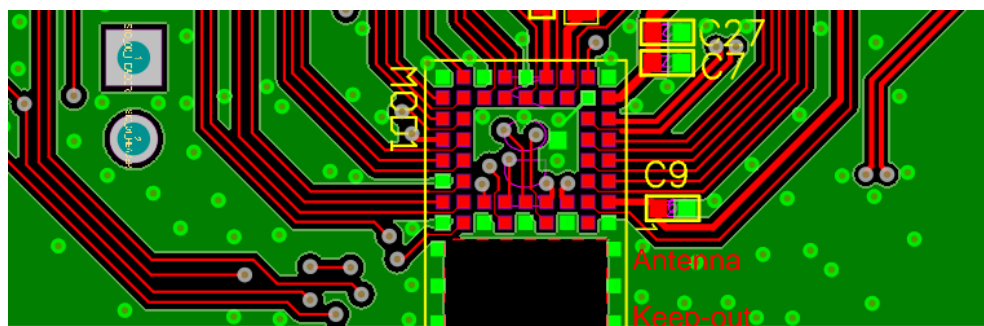

Figure 12: Chip Antenna keep-out area (shown in red), corner of the BL653 μ development board for the 453-00059 module.
- The BL653 μ development board has the 453-00059 module on the edge of the board (not in the corner). The antenna keep-out area is defined by the Laird Connectivity internal BL653 μ development board which was used for module development and antenna performance evaluation is shown in Figure 12, where the antenna keep-out area is ~5 mm wide, 3 mm long; with PCB dielectric (no copper) height ~1 mm sitting under the 453-00059 chip antenna.
- Host PCB land pattern and antenna keep-out for the BL653 μ applies when the 453-00039 is placed in the edge of the host PCB preferably in the edge center. Figure 12 shows an example.